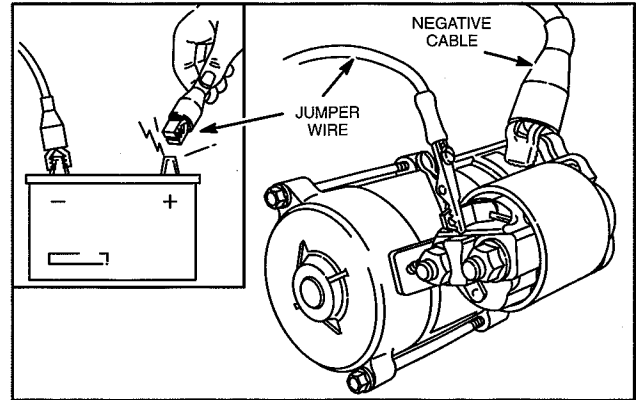

Fig. 49 – Testing Solenoid
1. Attach one end of battery cable to negative battery terminal and other end of cable to a good ground such as drive housing, Fig. 49.